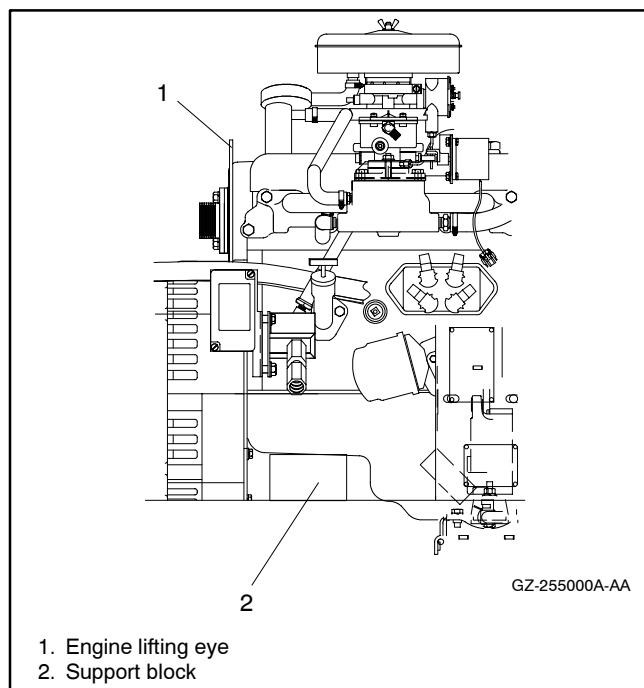

Figure 6-16 Support Block
11. Use a hoist attached to generator lifting eye to raise generator high enough to place support block beneath engine oil pan. See Figure 6-16. To remove end bracket place additional support beneath stator assembly.